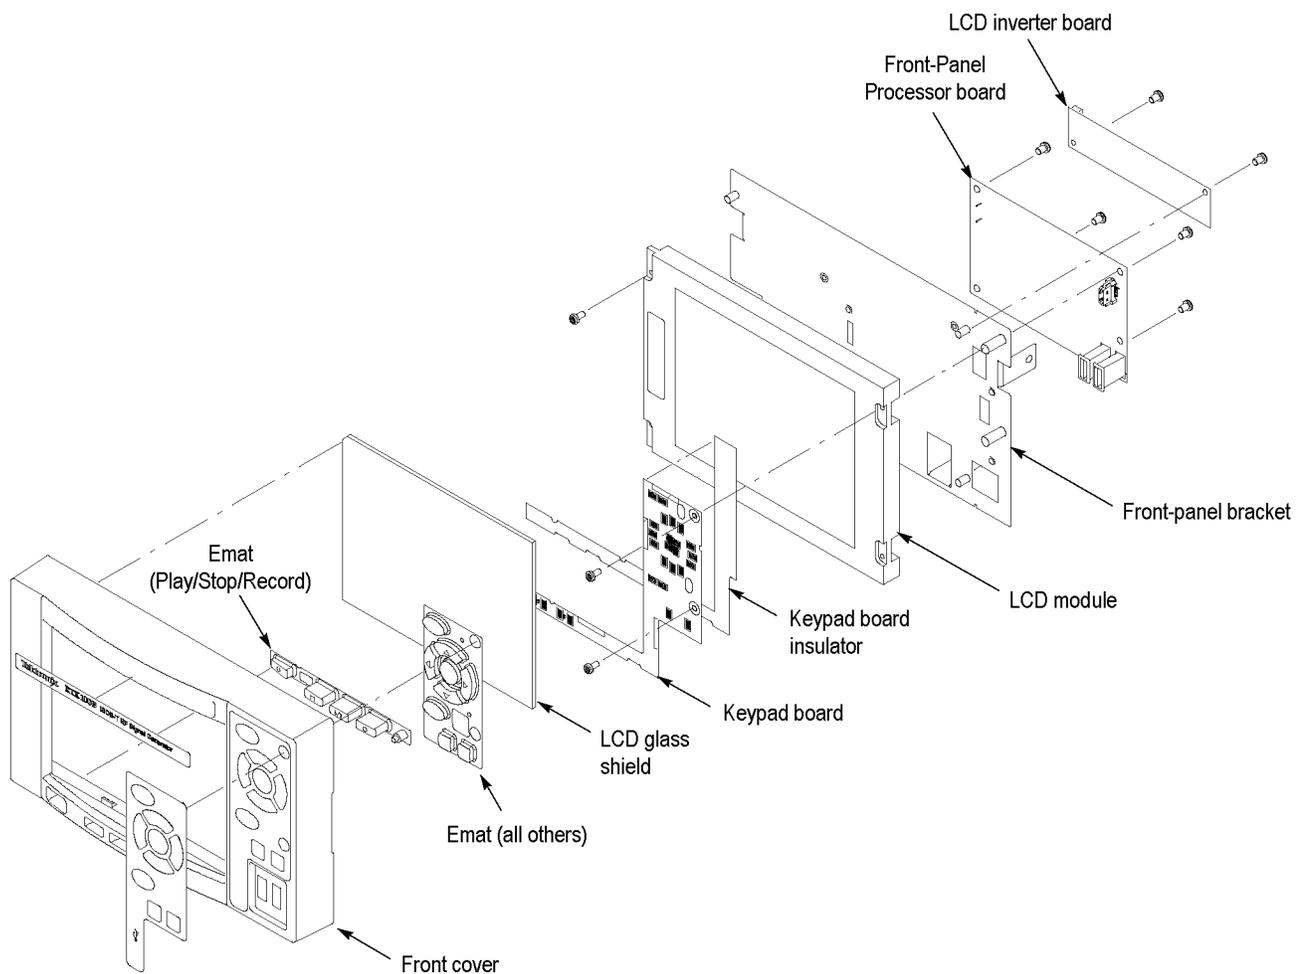

Figure 3-8: Disassembly of front-panel assembly
(See Figure 3-8.)
3. Remove the Front-Panel Processor board: (See Figure 3-8.)
4. Remove the Keypad board: (See Figure 3-8.)
5. Remove the LCD module: (See Figure 3-8.)
6. Manually disassemble the front-panel assembly components using the figure as a guide. (See Figure 3-8.) Reverse the procedure to reassemble.